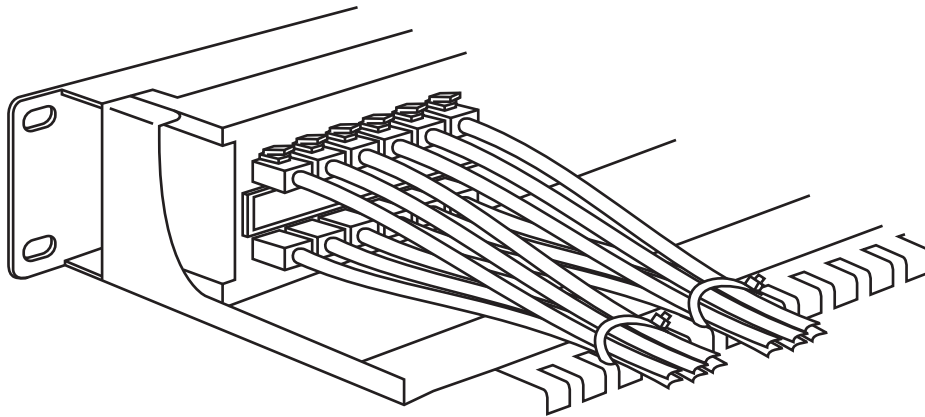

Figure 3-2. Completed installation.
- Use cable ties to secure the cables to the cable management bar. See Figure 3-2.